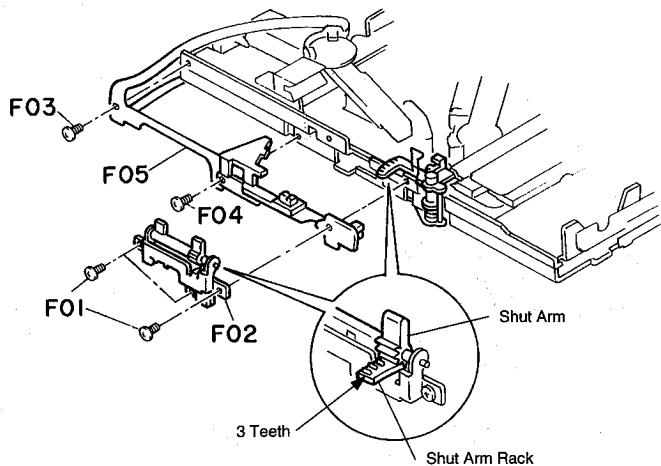

Fig. 2.11
Refer to Fig. 2.11.
- (1) Remove the Loading Ass'y. See 2.4 "Loading Ass'y".
- (2) Remove the screws F01 (M2x1.8 + Pan (Black Chromate), 3 pcs.) and detach F02 (Shut Arm Block) by shifting it to the right in Fig. 2.11.
- (3) Remove the screws F03 (M2x1.8 + Pan (Black Chromate), 1 pce.) and F04 (M2x2.5 + Pan, 1 pce.) that fasten F05 (Loading FPC Ass'y).
- (2) Shift the Shut Arm Block to the right in Fig. 2.11. Then, assemble it to the Shut Arm Rack of the Loading Ass'y. In this case, assemble it so that 3 teeth of the Shut Arm Rack comes out as shown when the Shut Arm is set free (set vertically).